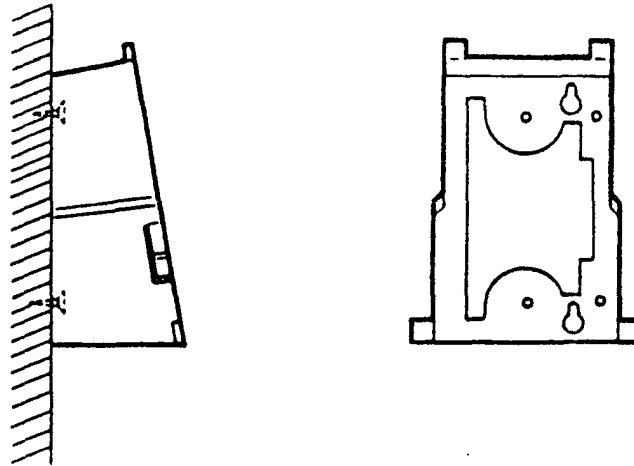

Figure 1-49 Mounting the WMU-W (BK) Unit to the Wall
4. Fasten the optional WMU-W (BK) Unit to the wall. [Refer to Figure 1-49 - Mounting the WMU-W (BK) Unit to the Wall.]